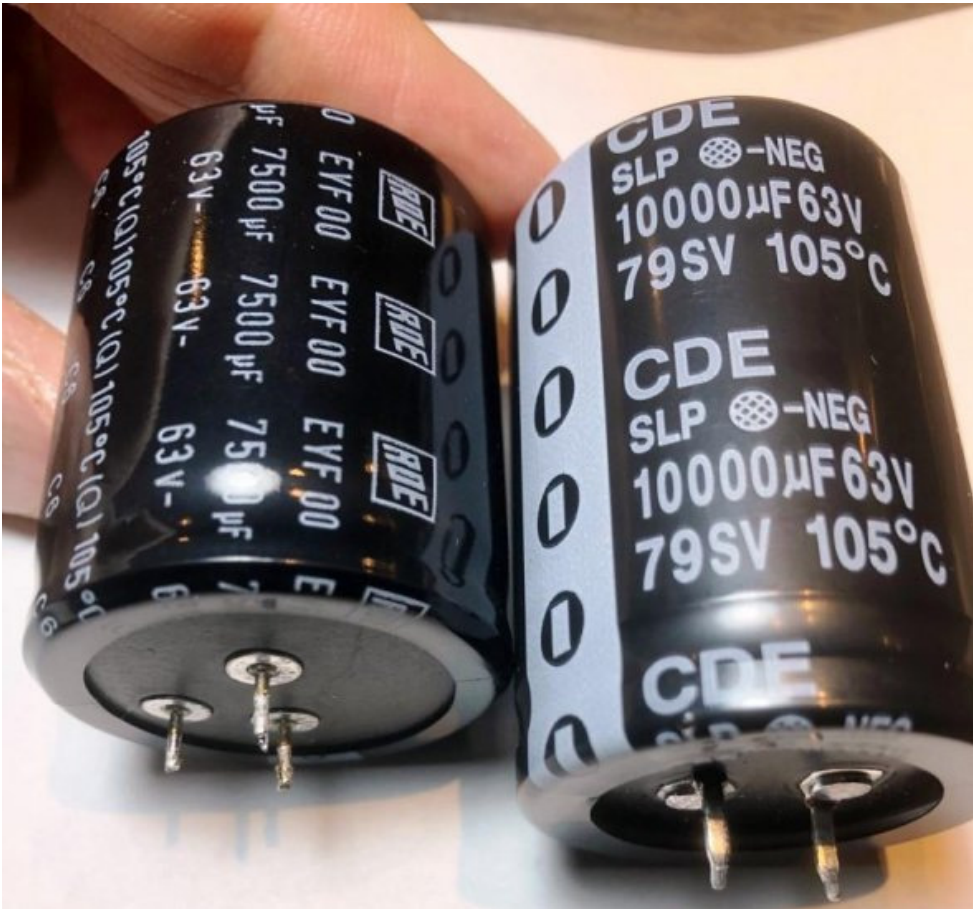
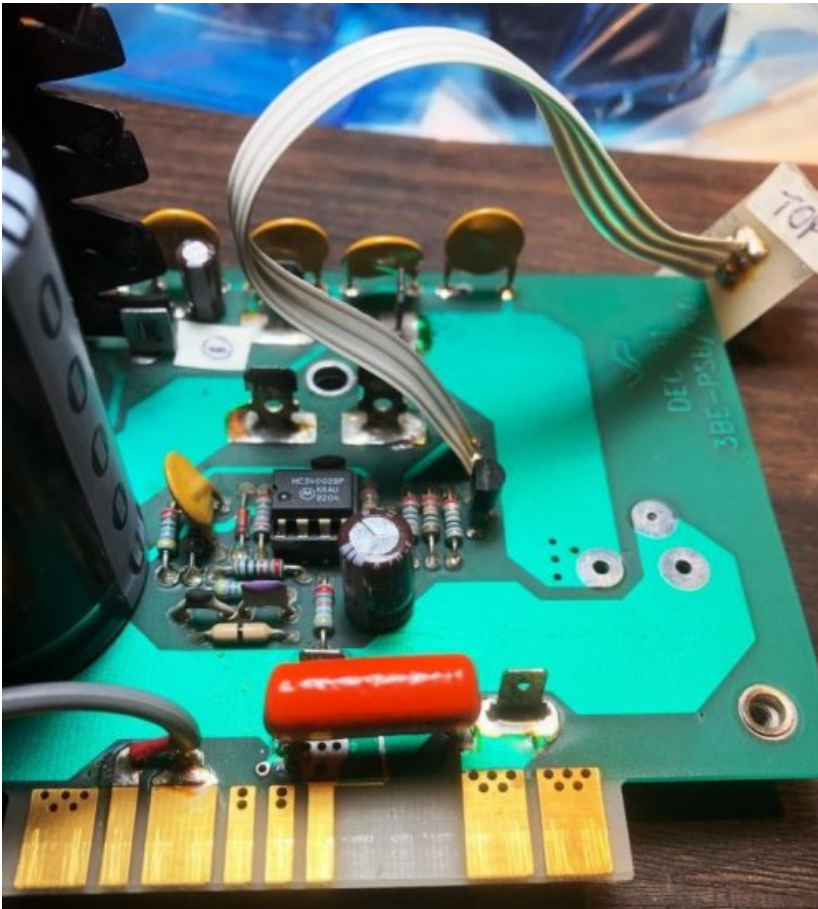

Figure 5. Original RDE with 3 straight leads as fitted (left), replacement CDE having 2 snap-in pins - note larger diameter pins (right).
Figure 6. Two PCB holes drilled out to 2mm (the third hole is now redundant and does not need to be enlarged).
* Unable to find Roederstein capacitors of the same electrical rating and mounting type having 3 straight leads, I replaced with new Cornell-Dublier SLP103M063H9P3, having rating 10,000 μF , 63 V, 105 Deg C, knowing that modern electrolytic capacitors typically employ 2 snap-in pins requiring 2 mm dia. PCB holes (Fig 5).
* After desoldering and removing the two RDE capacitors, carefully enlarged the positive and negative mounting holes using a fresh 2mm drill bit (Fig 6). The third hole becomes redundant and was left as is.
- * Apart from the upgrade of power supply capacitors from 7,500 uF to 10,000 uF (Fig 5) and the local modification to the PC board to accommodate these larger capacitors (Figs 6, 8), no tweaks or enhancements were made.